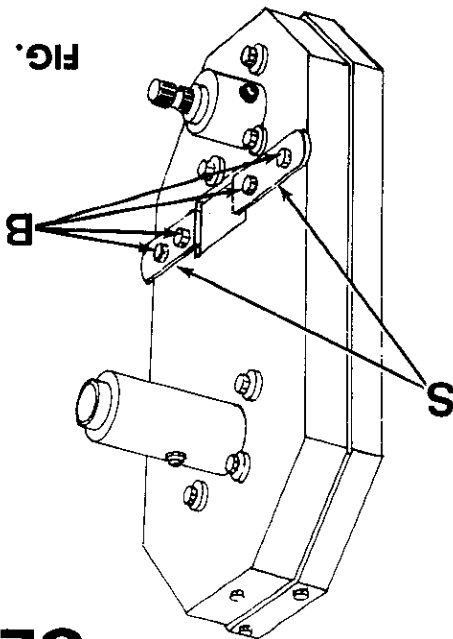

FIG. 17
4. Loosen four bolts (B) on chain box. (See Fig. 17)
5. Slide chain box stabilizers (S) against the drawbar on both sides.
6. Make sure chain box is centered on drawbar an straight. Make sure chain box stabilizers (S) are tight against the drawbar and tighten four bolts (B).